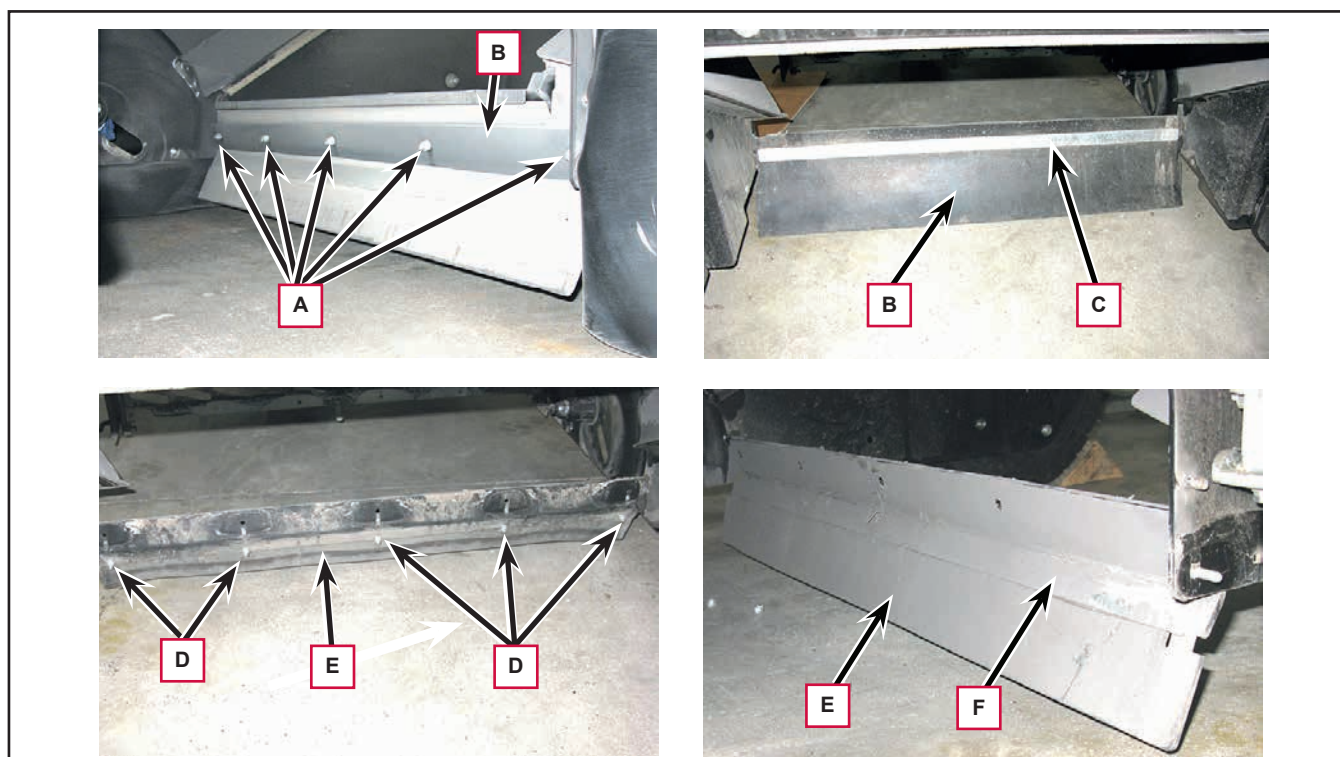

Figure 15
15. Working inside the main broom compartment, unscrew the nuts (A, Figure 15) fastening the rear skirt (B).
16. Working from the hopper compartment, remove the rear skirt (B) and the strap (C).
17. If necessary, unscrew the nuts (D) on the recycling skirt (E). From the main broom compartment, remove the strap (F) and the recycling skirt (E).
18. Install the rear skirts (B) and the recycling skirt (E) and the other removed components in the reverse order of removal, and note the following:
- Adjust in position until contact with the floor the rear skirt (B).